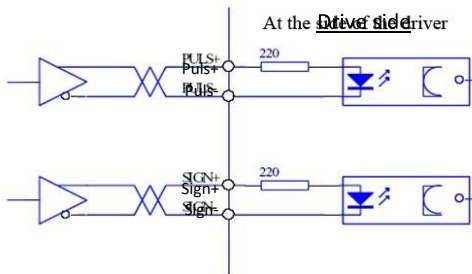

Figure 4-3a Type 3, differential line driver configuration of input pulse command
- ☐ In order to transmit pulse number correctly, and improve anti-jamming capability, differential line driver mode is recommended (Figure 4-3a);